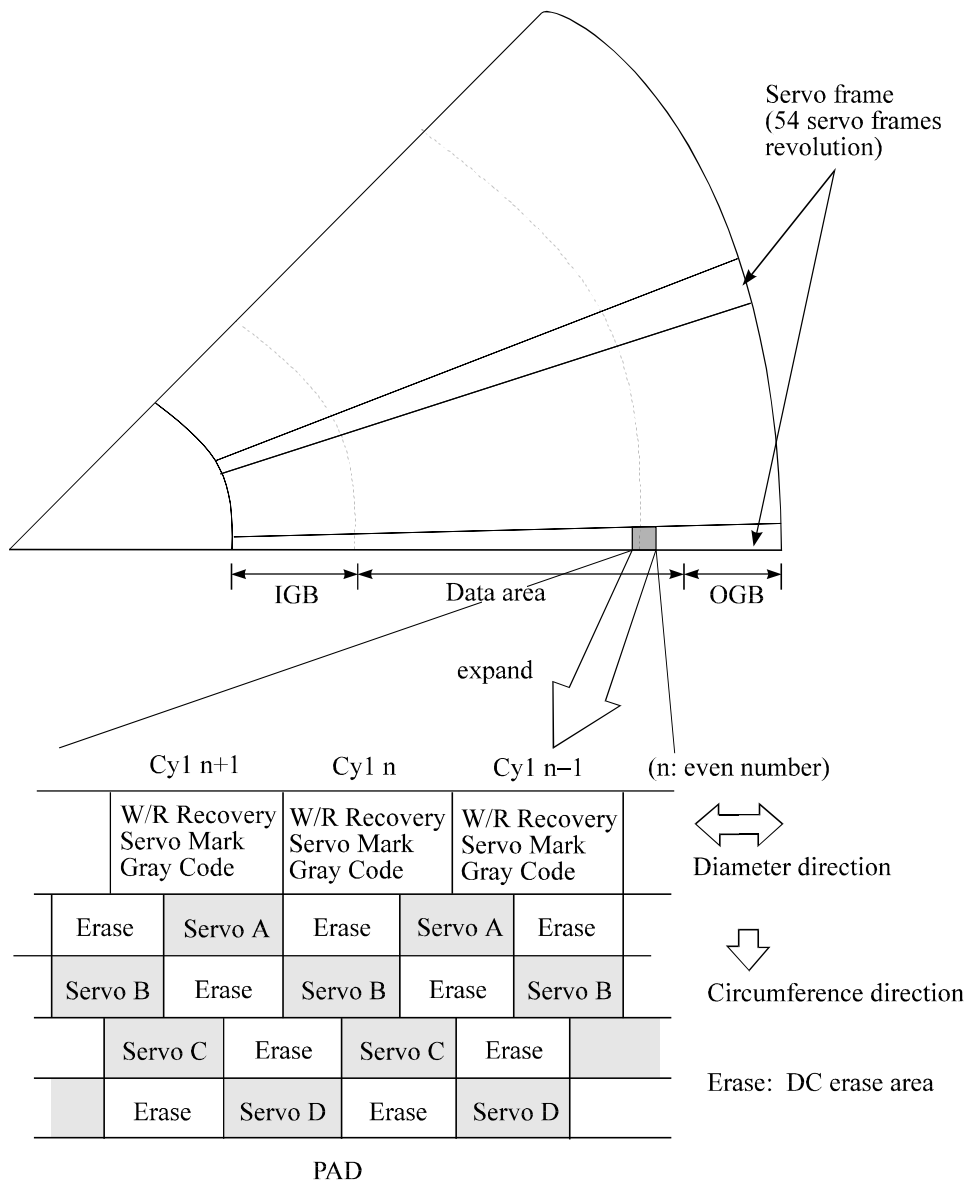

Figure 4.7 Physical sector servo configuration on disk surface
Figure 4.7 describes the physical layout of the servo frame. The three areas indicated by (1) to (3) in Figure 4.7 are described below.
(1) Inner guard band